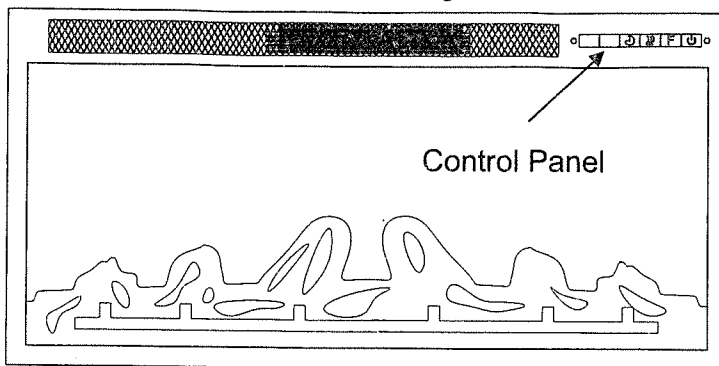

Figure 4
1. Using the touchpad control panel, located on the upper right-hand of the fireplace (Figure 4)